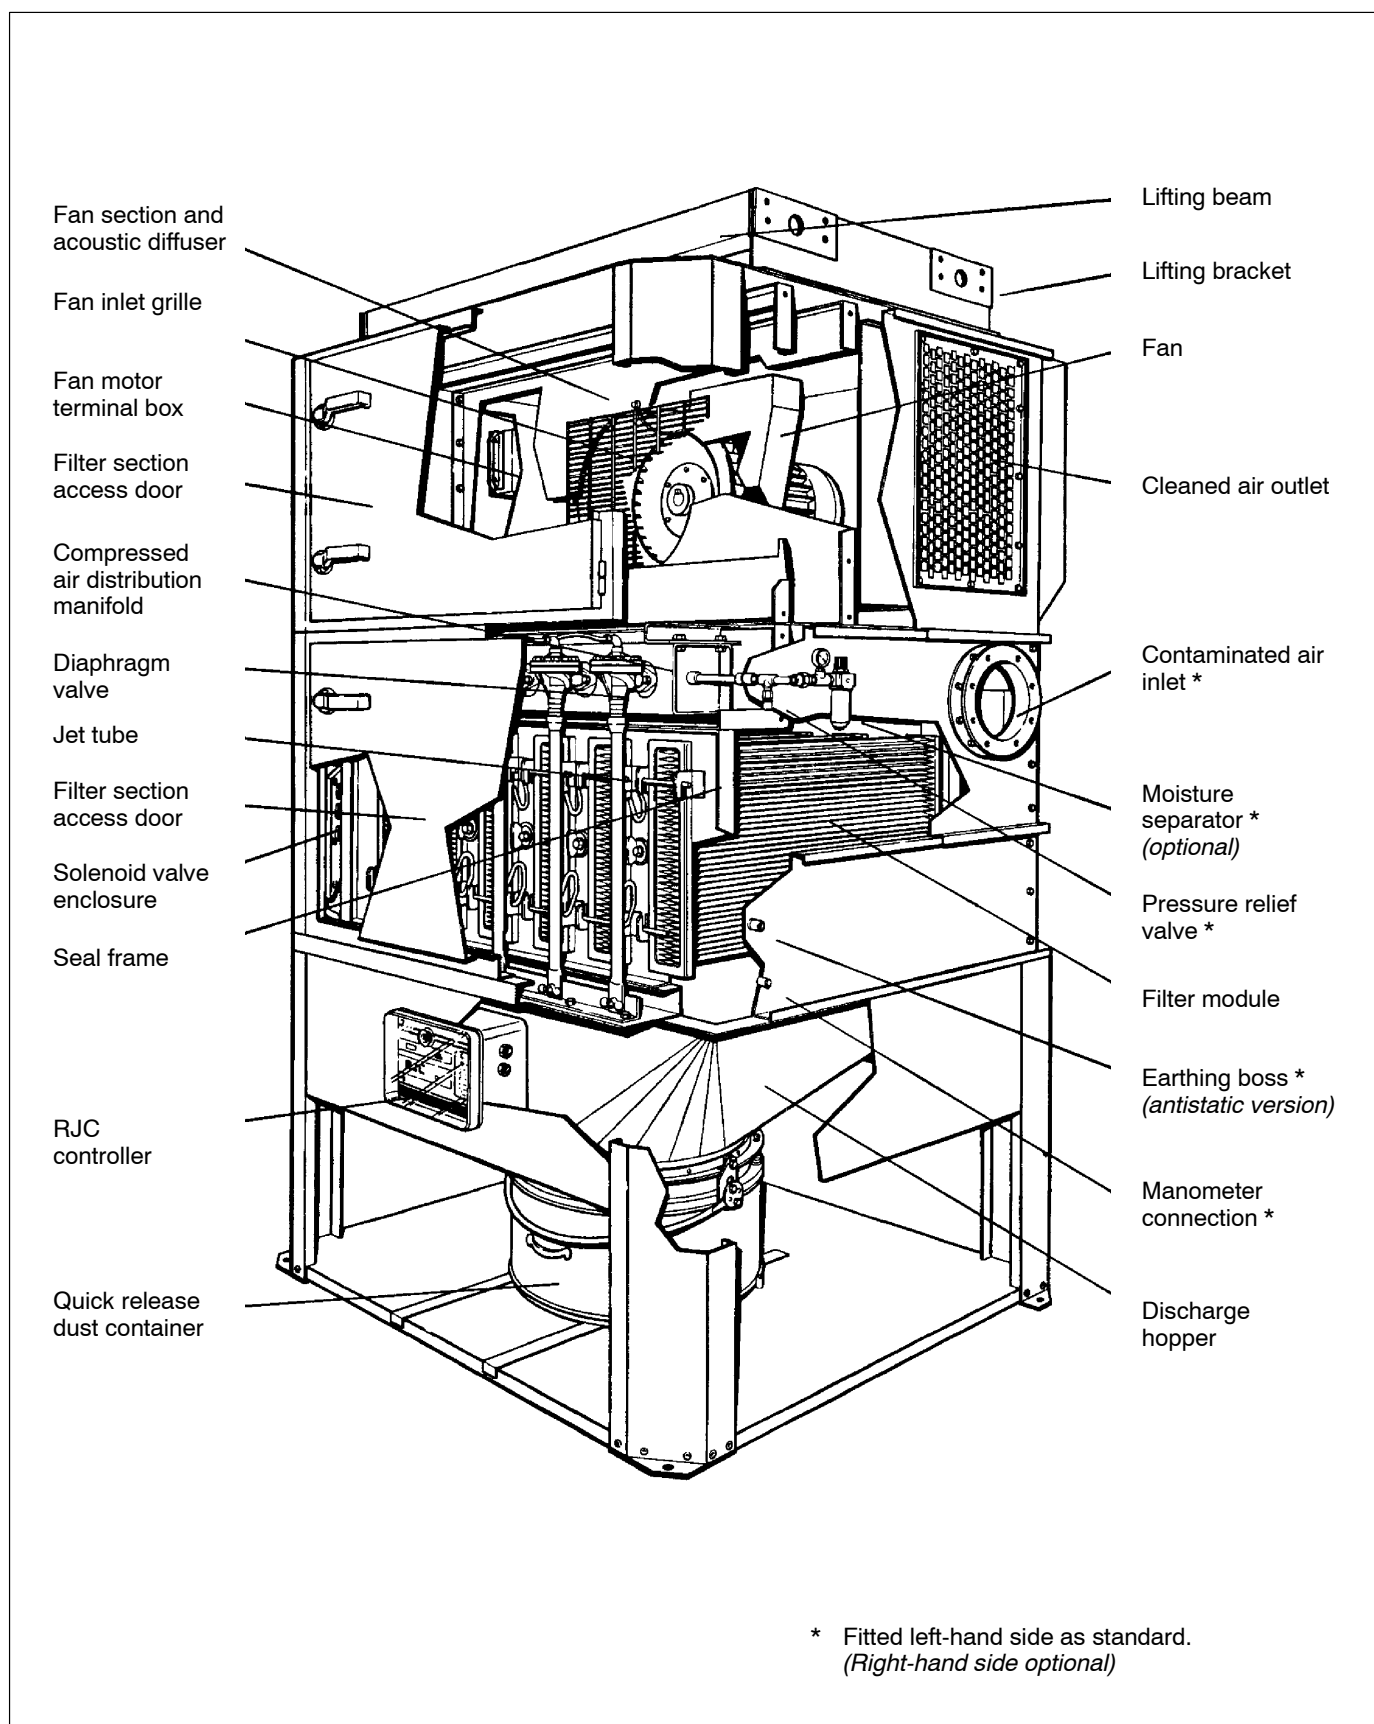

Fig. 2-1 Unicell dust control unit, model C24-2 K5 illustrated
Filter modules (Figs. 2-1, 2-2 and 2-4)
Seal frame (Figs. 2-1, 2-2 and 2-4)
An earthing boss is fitted to all antistatic versions of units for antistatic earthing (see Fig. 2-1).
Jet tubes (Figs. 2-1, 2-2 and 2-4)
Valves (Figs. 2-1 and 2-3)
2. Components (contd.)**Compressed air distribution manifold** (Fig. 2-1)
RJC controller (Fig. 2-1)
Fan (Fig. 2-1)